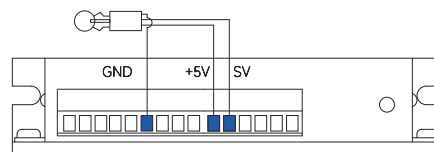

Figure2
- External potentiometer: Use a potentiometer with a resistance value of 10KΩ . ---Figure 2.